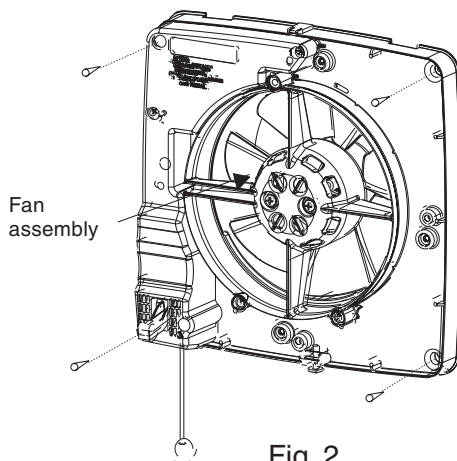

Fig. 2
3. Once the Ø180mm hole has been cut in the wall, fasten the fan assembly to the internal side of the wall via the 4 corner mounting points on the fan assembly (Fig. 2).